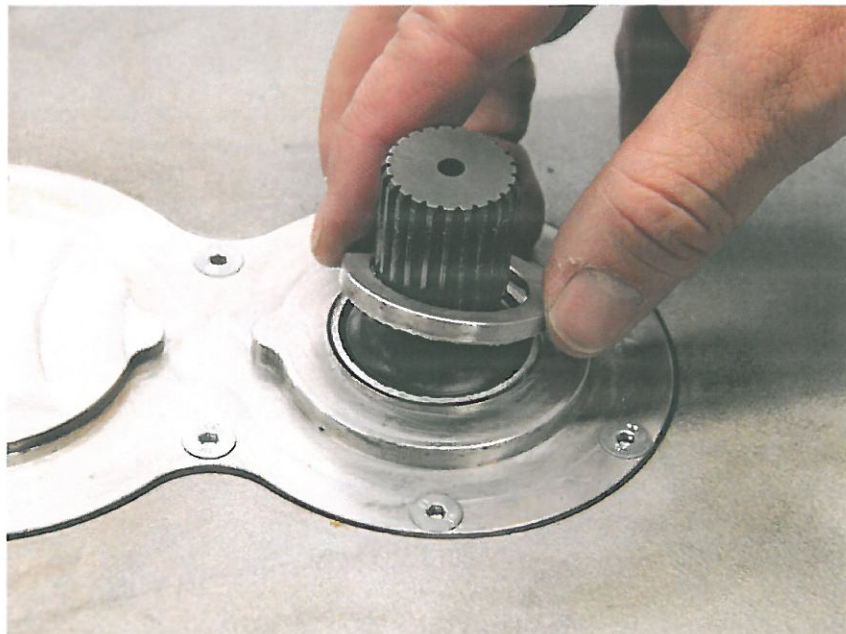

Fig. 8 Remove the shoulder
17. Remove the shoulder of the rear gearbox cover. See Fig. 8.